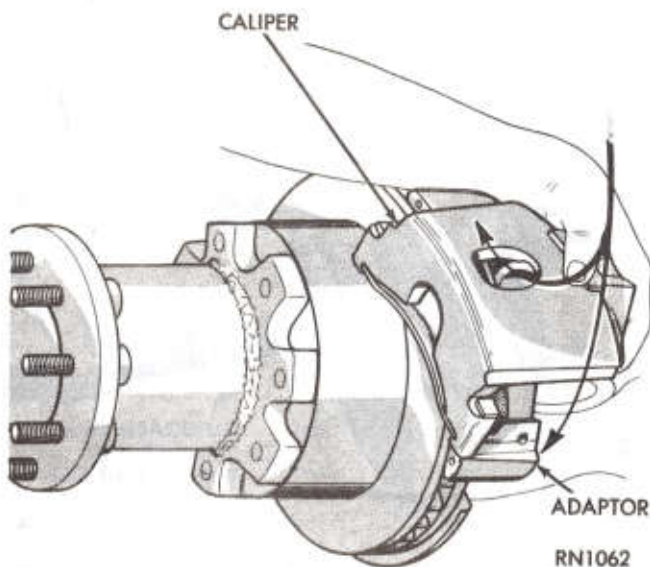

Fig. 10—Installing Key on Adaptor
(3) Position the caliper over the brake disc and guide the upper caliper groove into the upper mating adapter groove (Fig. 10). **Be careful not to pull the dust boot from its groove as the piston and boot slide down over the inboard shoe.** Position the caliper to the lower adapter sliding surface.